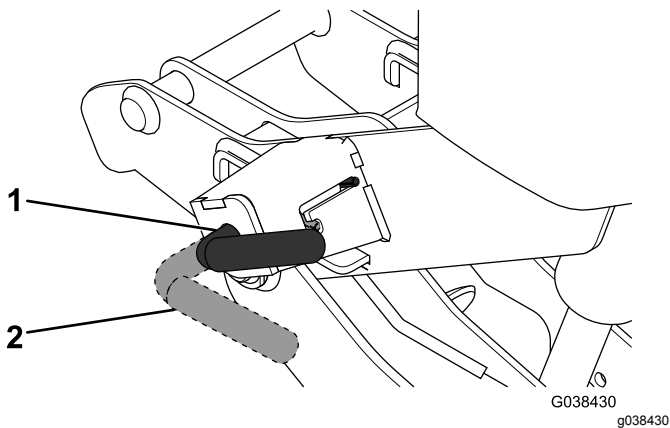

Figure 23
- While putting upward pressure on the coupler handle, turn the levers on the couplers to the OFF position (Figure 23).